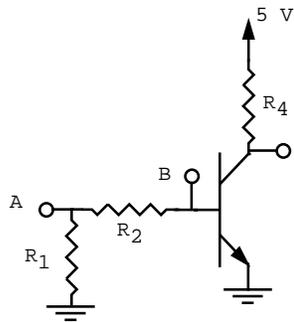
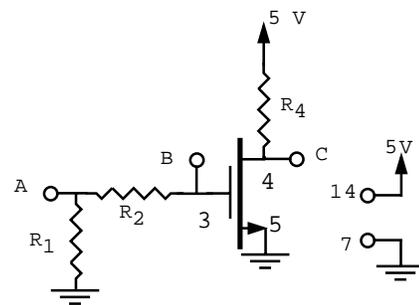
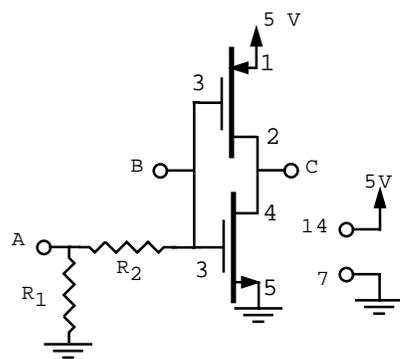
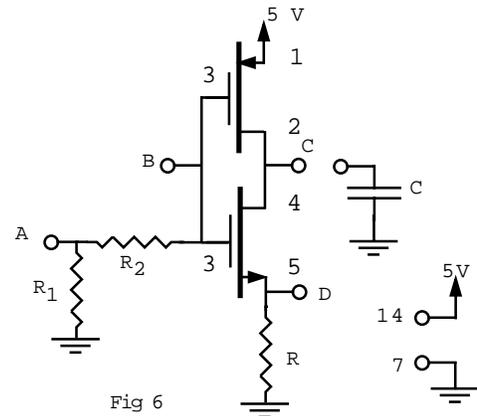

Fig 3
Fig 4
Fig 5
Fig 6
2) Consider the circuits shown in Figs. 1 through 4, which will be used to test the performance of common collector and drain (Figs. 1 and 2) and grounded emitter and source (Figs. 3 and 4) transistors, respectively. Complete the design, by choosing values for R_1 , R_2 , R_3 , and R_4 to produce reasonable currents and voltages. The function of R_1 is to provide a path to ground in the absence of an input signal. R_2 generates a voltage drop from the base or gate current; since these currents are small, R_2 should be chosen large to make the voltage easier to measure. R_3 and R_4 are load resistors, and should be chosen to match the characteristics of the device under test. **Make sure the chip's pin 14 is at 5 volts and pin 7 is at ground in all the figures.** Observe the waveforms at points A, B, and C. As discussed above the voltage difference between points A and B is a measure of the current drawn from the input signal. *Can you detect any current drawn by the FET? (Careful: The scope draws some current!)*
Compare the grounded emitter inverter in Fig. 3 to the grounded source inverter in Fig. 4. The voltage at point C is the output response to the triangular input. *At what input voltage does C start to decrease in voltage?* For the grounded emitter this should be about 0.7 volt, while for the grounded source this should be at V_t .
3) Connect the CMOS circuit in Fig. 5, in which a P-channel FET replaces the load resistor in Fig. 4. Compare the output voltage at point C with the corresponding waveform in Fig. 4. *At what input voltage does the transition occur? For what value of R_4 does the output of Fig. 4 most closely resemble the output of Fig. 5?* Add a resistor to the source (Fig. 6) to measure the current drawn by the circuit. Choose a resistor small enough not to disturb the operation of
Set up the arrangements in Figs. 3, 4, and 5 in PSPICE, and apply the 0 to 5 V ramp that you used in the experiment. Compare the output given by PSPICE with the output you obtained experimentally. *Do you expect any differences?*